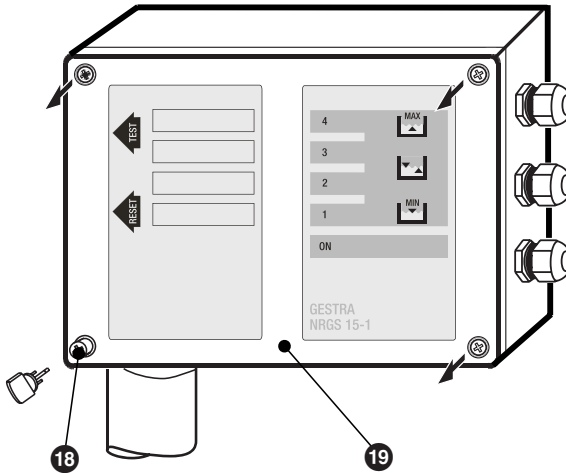

Fig. 3
2. Use a waterproof marker to enter the established function for each electrode tip in the labelling boxes on the lid (see **Fig. 3**).